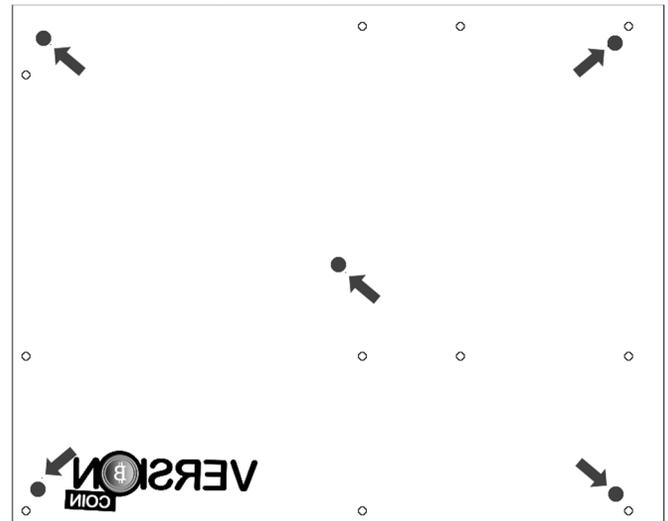

Figure 5: Suggested Rubber Foot Locations.
6. Place the rubber feet in the indicated locations on **Figure 5** below. This will increase heat dissipation, prevent scratching by the screws, and prevent flexing of the acrylic.